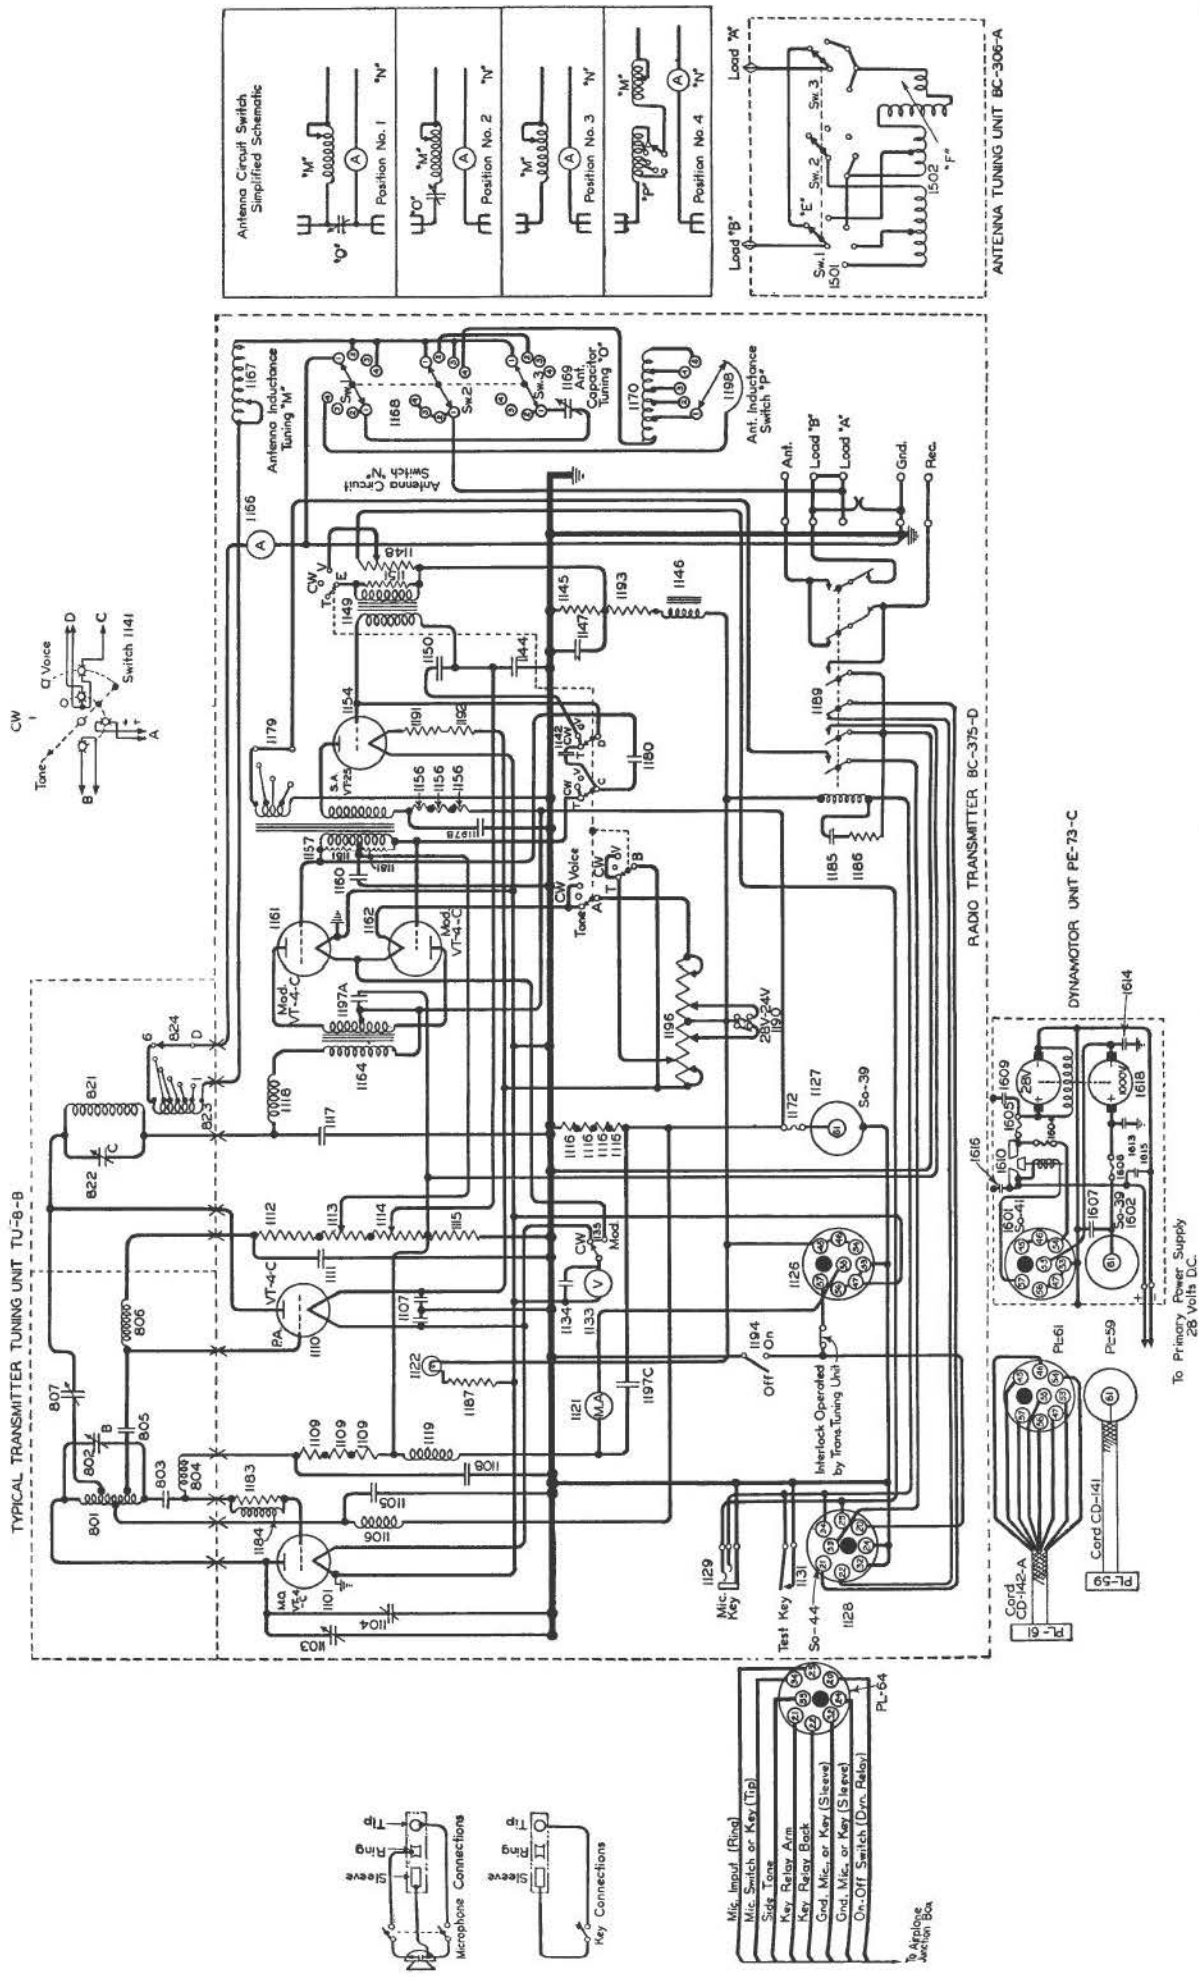

Figure 83. Radio Transmitter BC-375-D, Schematic Diagram
- (1) Low-voltage input of 24 to 28 volts, depending on the power-supply voltage, should be obtained from terminal 45 of Socket SO-41 to ground. (See Figure 83).
- (2) Speech-amplifier plate voltage of approximately 425 volts should be obtained at the plate connection of the speech-amplifier tube when the radio transmitter is on VOICE, Figure 83.
Refer to Schematic Diagram, Figure 83. All Voltages, Tuning Unit and Back Shield Removed